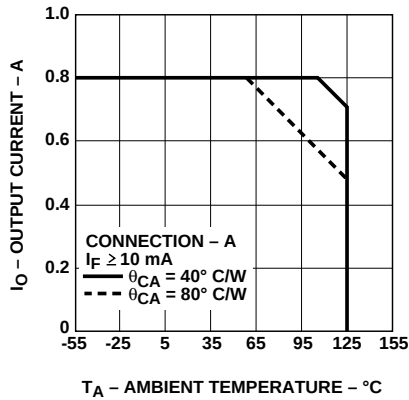
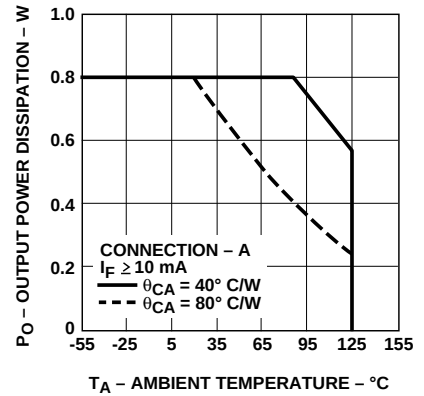

Figure 2. Maximum Average Output Current Rating vs. Ambient Temperature.
Figure 4. Output Power Rating vs. Ambient Temperature.
Average Output Current – Figure 2
- For rating, see Figure 4. The output power P_O rating curve is obtained when the part is handling the maximum average output current I_O as shown in Figure 2.
IN ORDER TO DETERMINE V_{OUT} CORRECTLY, THE CASE TO AMBIENT THERMAL IMPEDANCE MUST BE MEASURED FOR THE BURN-IN BOARDS TO BE USED. THEN, KNOWING θ_{CA} , DETERMINE THE CORRECT OUTPUT CURRENT PER FIGURES 2 AND 4 TO INSURE THAT THE DEVICE MEETS THE DERATING REQUIREMENTS AS SHOWN.
Rating curves are shown in Figures 2 and 4. Figure 2 specifies the maximum average output current allowable for a given ambient temperature. Figure 4 specifies the output power dissipation allowable for a given ambient temperature. Above 55°C (for $\theta_{CA} = 80^{\circ}\text{C}/\text{W}$) and 107°C (for $\theta_{CA} = 40^{\circ}\text{C}/\text{W}$), the maximum allowable output current and power dissipation are related by the expression $R_{SS} = P_O(\text{max}) / (I_O(\text{max}))^2$ from which R_{SS} can be calculated. Staying within the safe area assures that the steady-state junction temperatures remain less than 150°C . As an example, for $T_A = 95^{\circ}\text{C}$ and $\theta_{CA} = 80^{\circ}\text{C}/\text{W}$, Figure 2 shows that the output current should be limited to less than
610 mA. A check with Figure 4 shows that the output power dissipation at $T_A = 95^\circ\text{C}$ and $I_O = 610\text{ mA}$, will be limited to less than 0.35 W. This yields an R_{SS} of $0.94\ \Omega$.